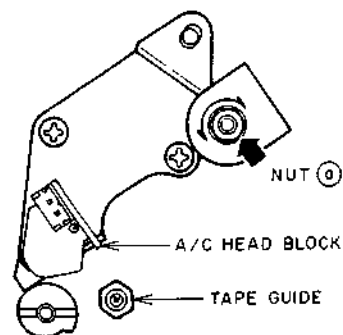

Fig. 6-8
- 3) Slightly turn the NUT ③ shown in Fig. 6-8 to obtain the maximum audio output.